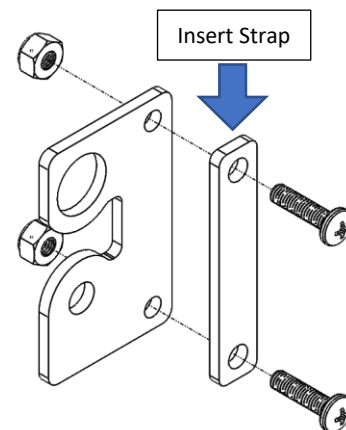

Figure 7: Strap Clamp Assembly
- 21. Install the door strap onto the hard stop bracket using the strap clamp to secure it. Feed the strap clamp through the largest eyelet in the strap and bolt it to the hard stop bracket. Direct the strap towards the lower hinge when tightening down the clamp. Reference Figure 7 and 8.